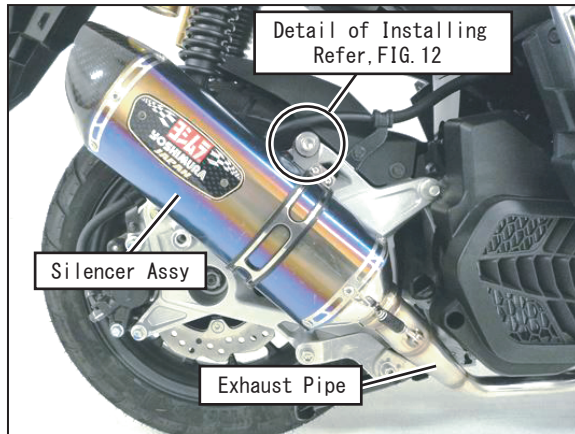

FIG. 11
- 10) Mount Silencer Bracket on Stock Silencer Bracket by Using Cap Bolt M10x55 P1.25 and Washer M10x26 Tighten bolt by hand only at this stage (See Fig. 11, 12).